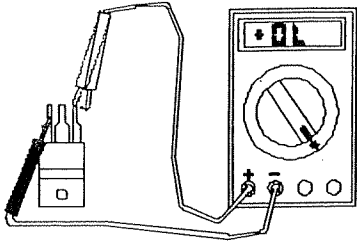

Figure 2: FET "ON"
4) For the first FET to be tested, place the black lead on the SOURCE and touch the red lead to the GATE, this will turn the FET "ON". (See Figure 2)